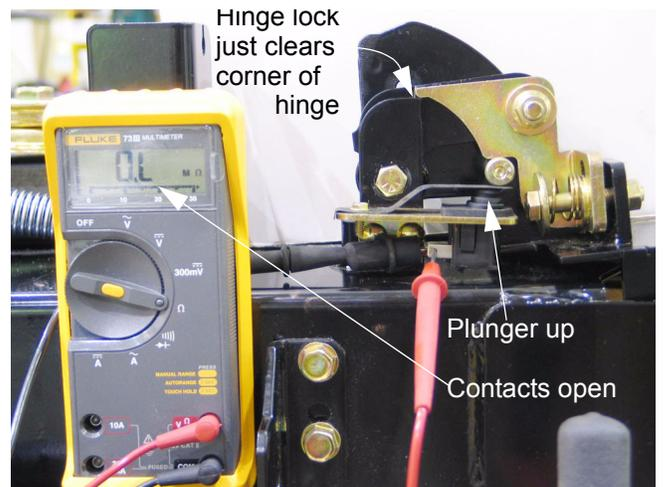

Figure 10.16
10.16. The switches are correctly adjusted when the contacts break just as the corner of the hinge lock clears the corner of the hinge. See Figure 10.16.